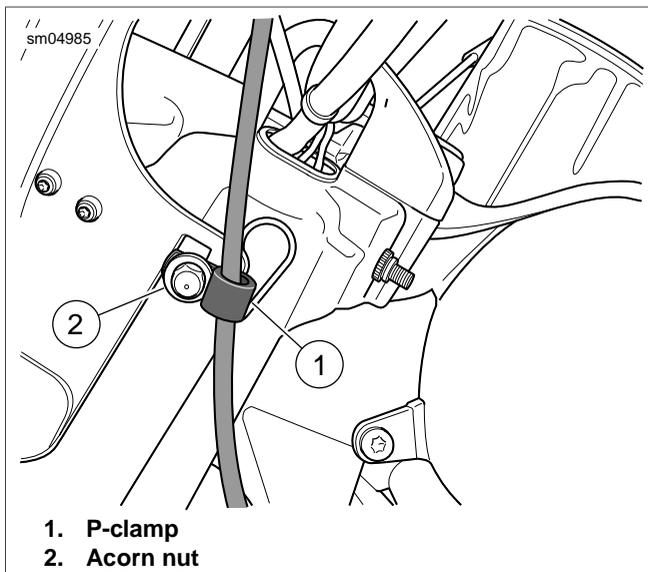

Figure 2-88. FLHR/C Clutch Cable Routing (Left Side View)
- a. **FLHR/C:** Remove acorn nut to release P-clamp from stud in upper fork bracket. Remove clutch cable from P-clamp. See Figure 2-88.
- a. **FLHR/C:** Capture clutch cable in P-clamp. Slide P-clamp on stud in upper fork bracket and install acorn nut. Orient P-clamp as shown in Figure 2-88. On left side of steering head, run cable downward between engine guard and front of left frame downtube.